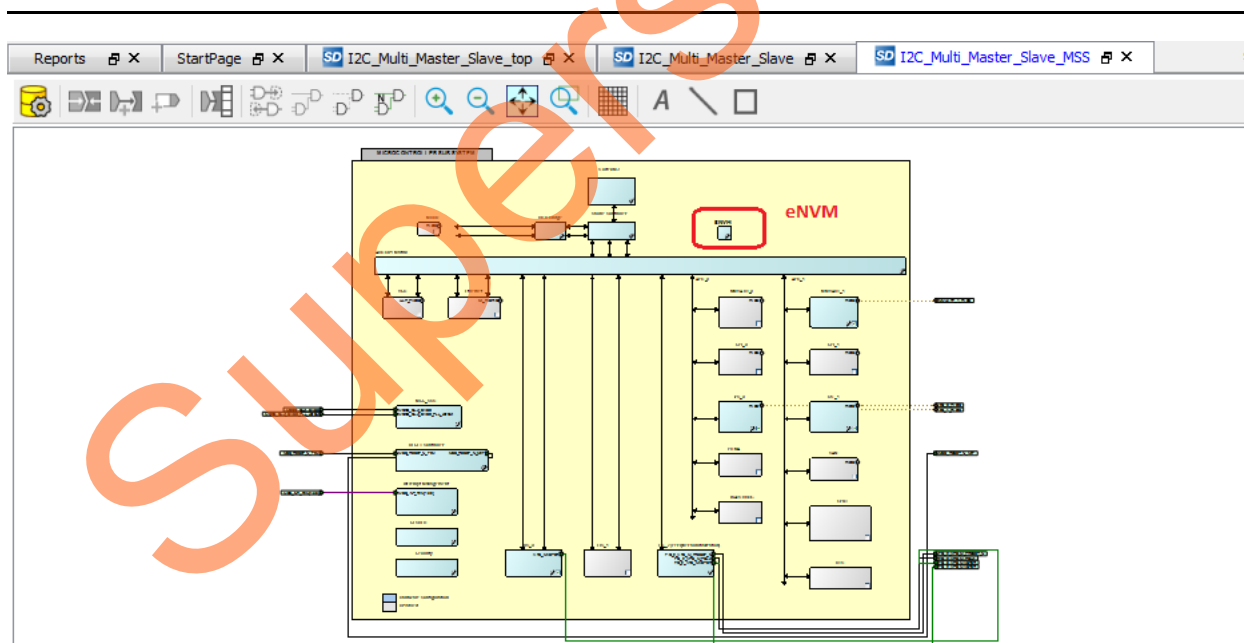

Figure 27 • MSS Component
- Double click **I2C_Multi_Master_Slave_MSS_0** instance. **I2C_Multi_Master_Slave_MSS** is opened as shown in Figure 27.